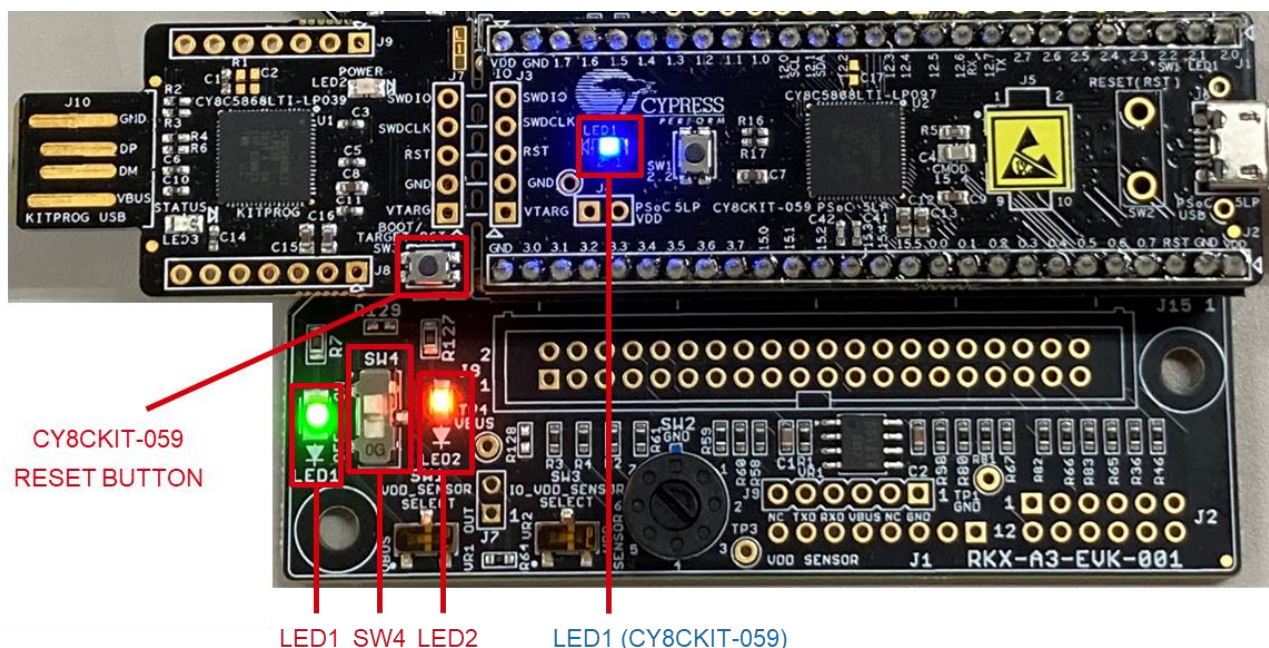

Figure 35. ADC Evaluation Kit status: LED1, SW4, LED2, LED1 (CY8CKIT-059) must be ON
1. The **blue** LED1 (CY8CKIT-059) should be constantly ON and not blinking (Figure 35)
2. The **green** LED1 (Figure 35).
1. The orange LED2 should be ON (Figure 35). If orange LED2 is OFF, check the following:
- ◆ Check if the SW4 is in the ON position (i.e., moved up as seen from above) (Figure 35).
- ◆ Press CY8CKIT-059 Reset Button (Figure 35). Wait few seconds. If status changes to “Connected”, press “Streaming” button.